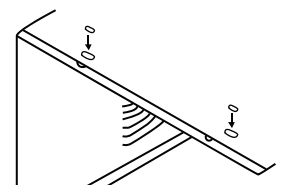

Fig.6
9. Add two foam inserts to holes in top of cabinet where shipping screws were removed from (see Fig. 6)
1. Attach foam gasket to top angle above holes as shown in Fig.6.